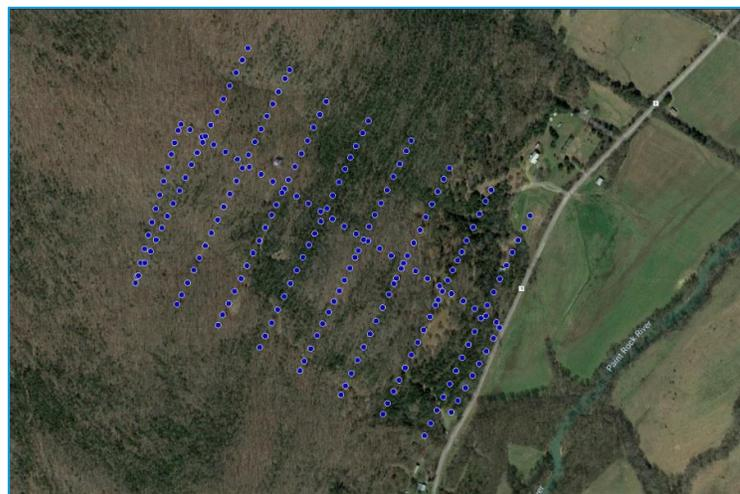

Figure 84 - Retain Photos only within Flight Lines
- i. **Retain Photos within Flight Lines** – This option retains only the photos that occur between the start and end of each flight line (flight lines were defined in the prior Create Flight Lines step). This option eliminates photos in turns. (Recommended). Selecting the option to “Retain Photos within Flight Lines.” creates a new layer in the Table of Contents (TOC) called “RetainedPhotos”. The resultant layer is shown in Figure 84. Note that only photos that are between the beginning and end of each flight line are retained.